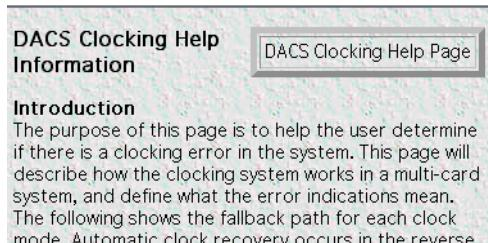

Figure 30. System Clocking help window
- Help—Clicking the **Help** button displays the *DACS Clocking Help* window (see figure 30).